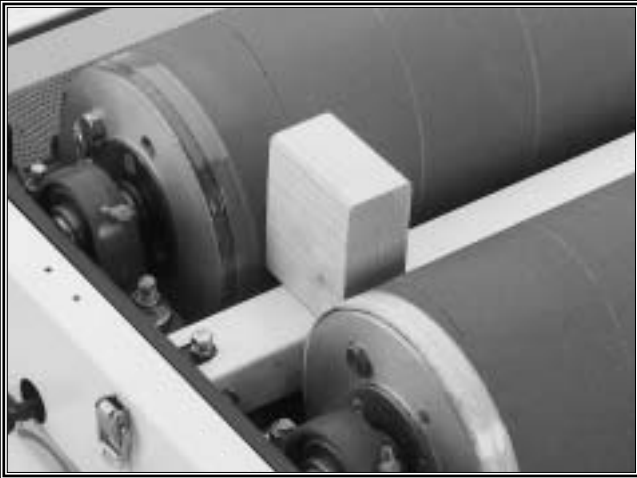

Figure 25. The $2\frac{5}{8}$ " gauge block positioning.
5. At one end of the rear drum, place the $2\frac{5}{8}$ " gauge block on the dust collector bar and between both drums. Your goal is to slide the rear drum against the block so the rear drum sanding path runs true with the front drum, which now runs true with the conveyor feed path. See **Figure 25**.